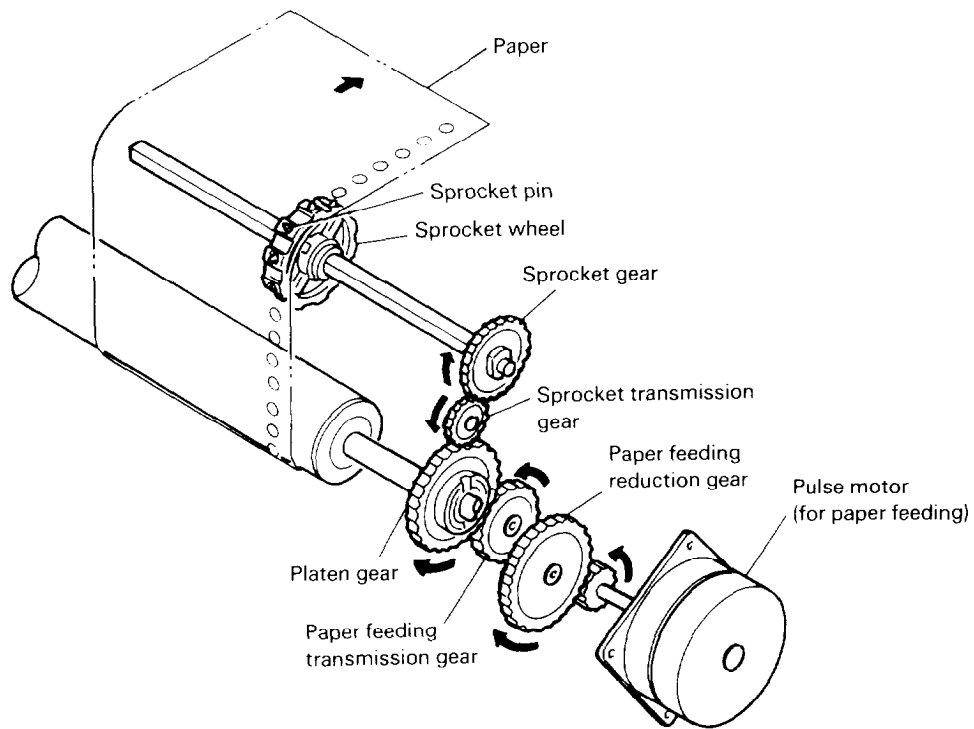

Fig. 2.47 Tractor (sprocket) feed mechanism
1) Friction feed system (for cut sheet) (Fig. 2.47)